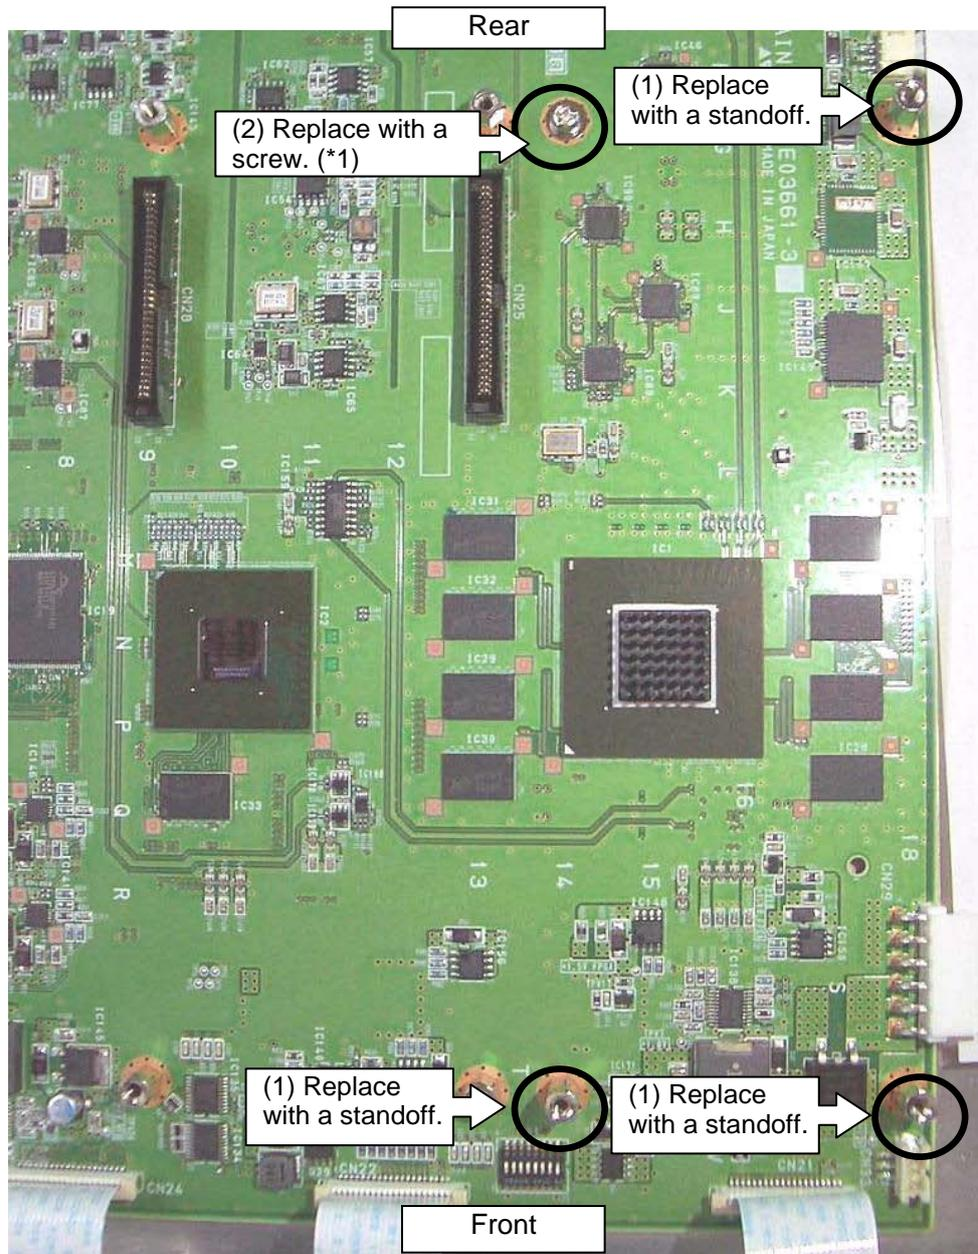

Fig. 12 Main card standoff replacement
3. Replace the 3 standoffs securing the main card with the circuit board standoffs supplied with the FA-95D-D/DE-E. (Fig. 12 (1))
Replace 1 standoff securing the main card with the supplied screw (double-SEMS screw). (Fig. 12 (2))